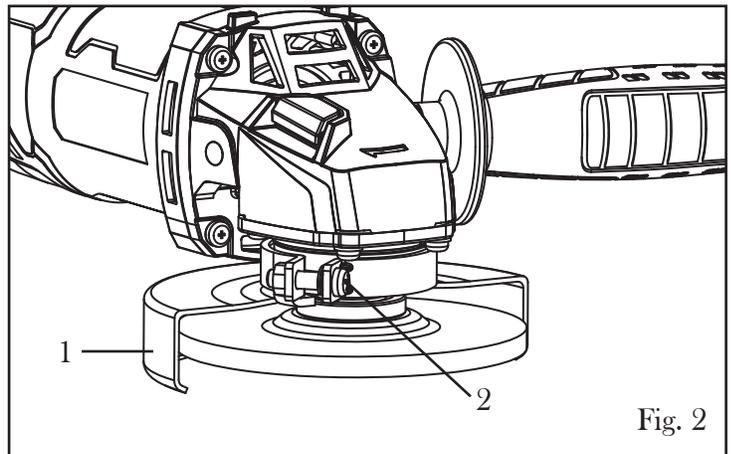
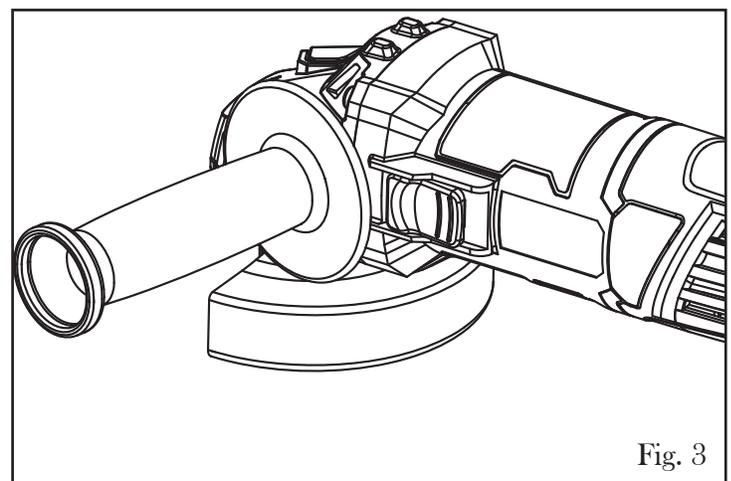

Fig. 2
Fig. 3
INSTALLING/ADJUSTING THE WHEEL GUARD (Fig. 2 & 3)
The wheel guard (Fig. 2 - 1) helps to protect the operator from broken wheel fragments and accidental contact with the grinding wheel. The guard **MUST** be securely attached to the power tool and positioned for maximum safety, so the least amount of wheel is exposed towards the operator.
2. Using a Phillips-head screwdriver (not included), loosen the guard lock screw (Fig. 2 - 2) and position the guard onto the spindle neck.
3. Rotate the guard to the desired position so that the guard is between you and the wheel (Fig. 3). Tighten the screw (Fig. 2 - 2) to secure the guard in place.
1. Disconnect the tool from its power supply. Be sure that the wheel guard (Fig. 2 - 1) has been properly installed before assembling the grinding disc.